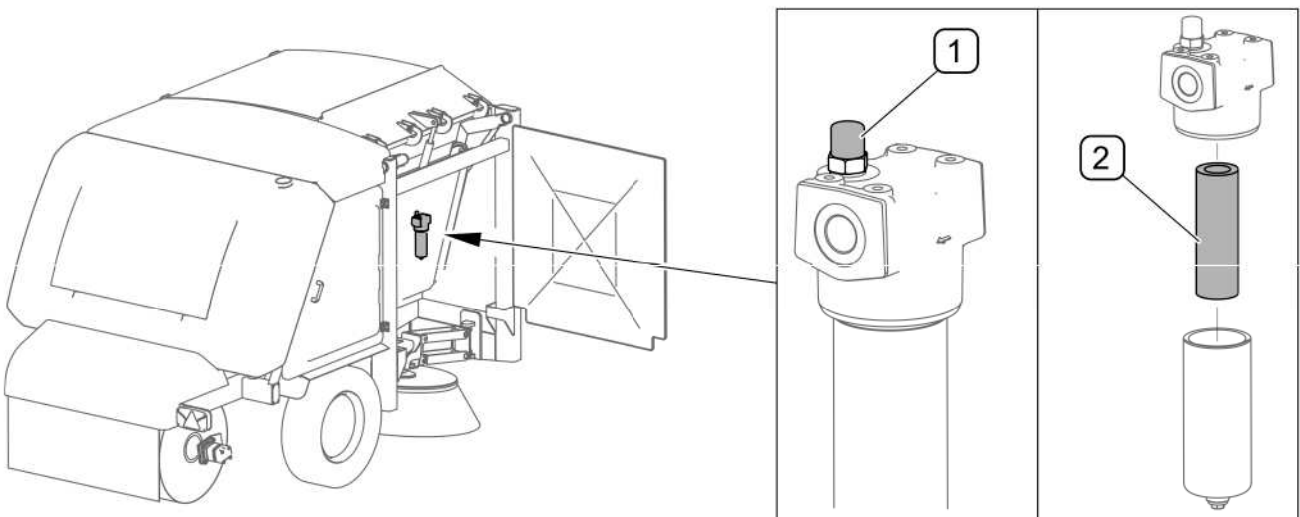
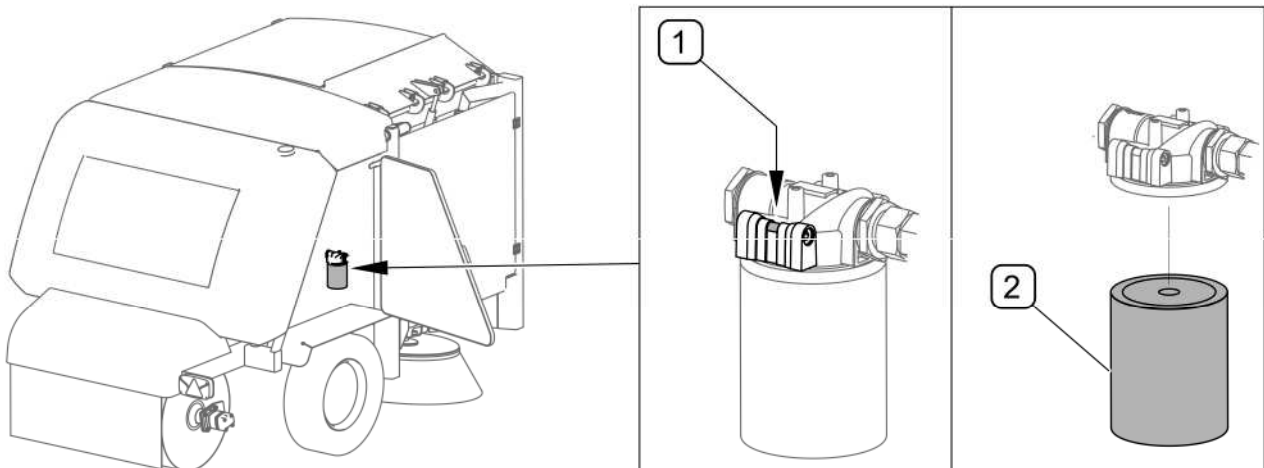

FIG. 5.13 Pressure oil filter
FIG. 5.14 Return oil filter
(1) - filter contamination indicator; (2) - filter cartridge
Pressure oil filter (FIG. 5.13) is equipped with contamination indicator. If filter cartridge is contaminated, the indicator changes its colour to red. Within the scope of hydraulic system maintenance, check the indicator (1) and replace filter cartridge (2), if necessary. Open front right-hand shield in order to gain access to the pressure oil filter.
In order to replace pressure filter cartridge (FIG. 5.13):
(1) - filter contamination indicator; (2) - filter
Return filter (FIG. 5.14) of hydraulic system is equipped with indicator (1). If filter is contaminated, the indicator changes its colour to red. Within the scope of hydraulic system maintenance, check the indicator and replace filter (2), if necessary. Before installing a new filter, oil the gasket surface. Open rear right-hand shield in order to gain access to the return oil filter.
Return oil filter (FIG. 5.14) should be replaced when the indicator (1) located on the filter indicates filter contamination. The indicator should be checked after oil has reached its working temperature.
When changing oil, replace old pressure oil filter (FIG. 5.13) and return oil filter (FIG. 5.14). The hydraulic system is vented automatically during machine operation.